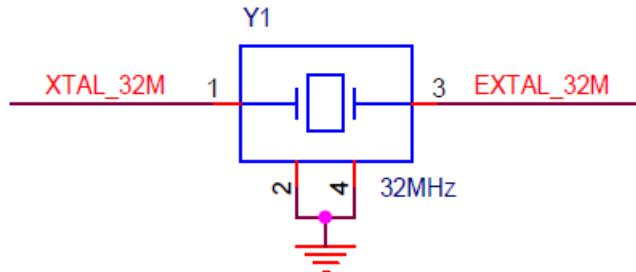

Figure 6. FRDM-KW38 32MHz oscillator circuit
- Figure 6 shows the 32 MHz external crystal Y1. The KW38A requires the frequency to be accurate less than ± 10 ppm. For more details, please refer to the device datasheet.